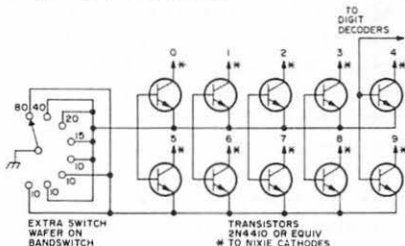

Fig. 5. Using a wafer switch to ground the appropriate Nixie drive for "adder" function.
The one remaining readout problem is that of the most significant digit. If you want the digital dial to be accurate on all bands it must read: (3)745.92 kHz on 80 meters, and (7)245.92 kHz on 40 meters. One way this can be done is to have different drivers for the Nixie, and ground the appropriate one with an extra wafer on the band switch (see Fig. 5). By driving the